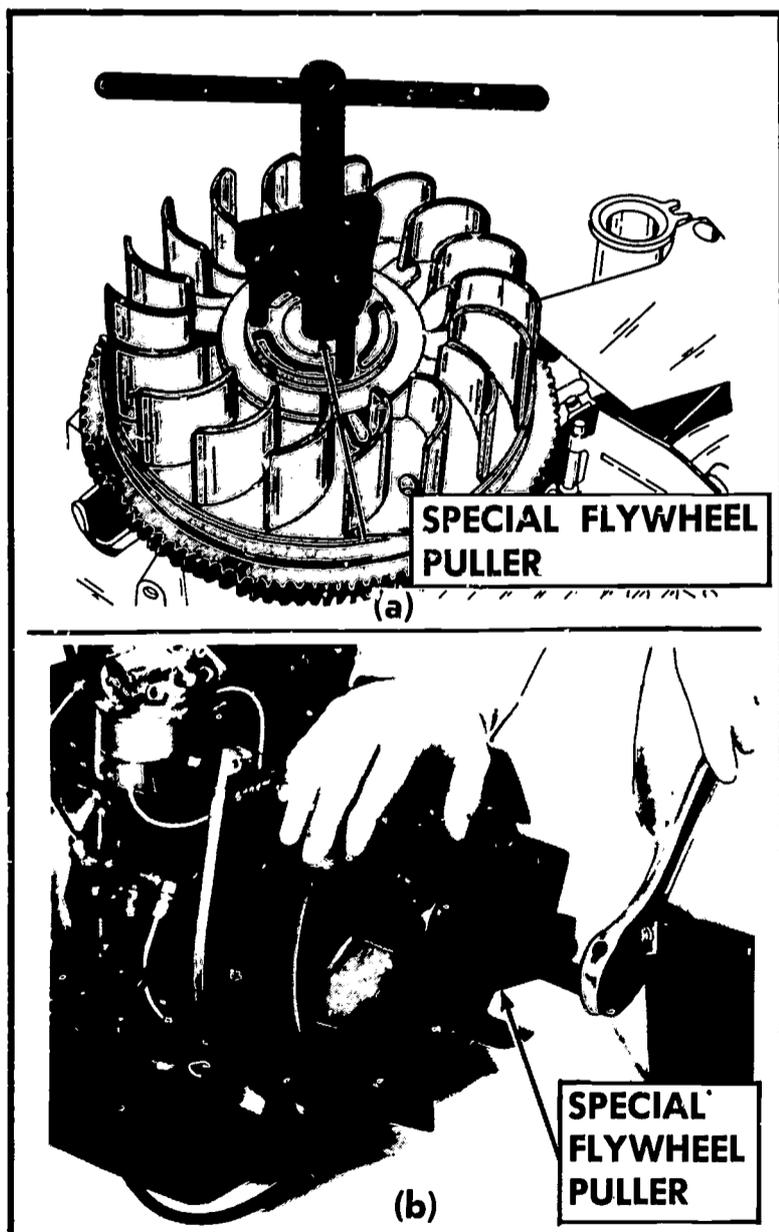

FIGURE 91. Special flywheel pullers. (a) A T-handle type. (b) A puller to be turned with a wrench.
Use a lead or plastic hammer. If the flywheel does not break loose after two or three tries, use a puller (Figure 91). Too much hammering will jar the magnetism out of the flywheel magnets and may damage the crankshaft bearings.
- (1) *Attach special puller to the flywheel (Figure 91).*